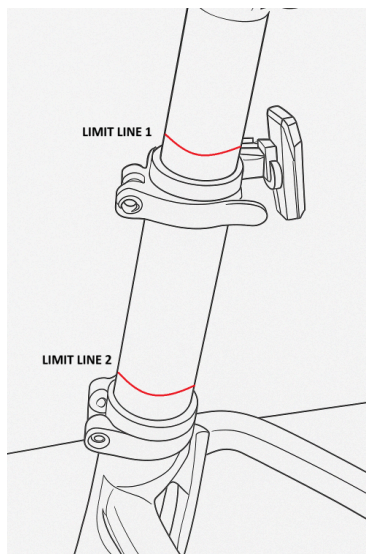

Fig. 9
2. If additional saddle height is needed, loosen the seatpost quick-release lever and raise the inner tube of the seatpost. ⚠ Again, do not exceed the minimum insertion line! (Fig. 9)